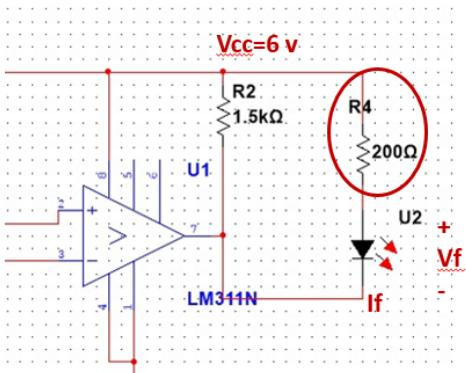

Figure 17
- Before connecting the output of comparators (LM11) to the motor driver IC, check if the comparator circuit is working properly by connecting to an LED and resistor as shown in Figure 17. Change the light and adjust the threshold so that, the LED status change based on the light level.